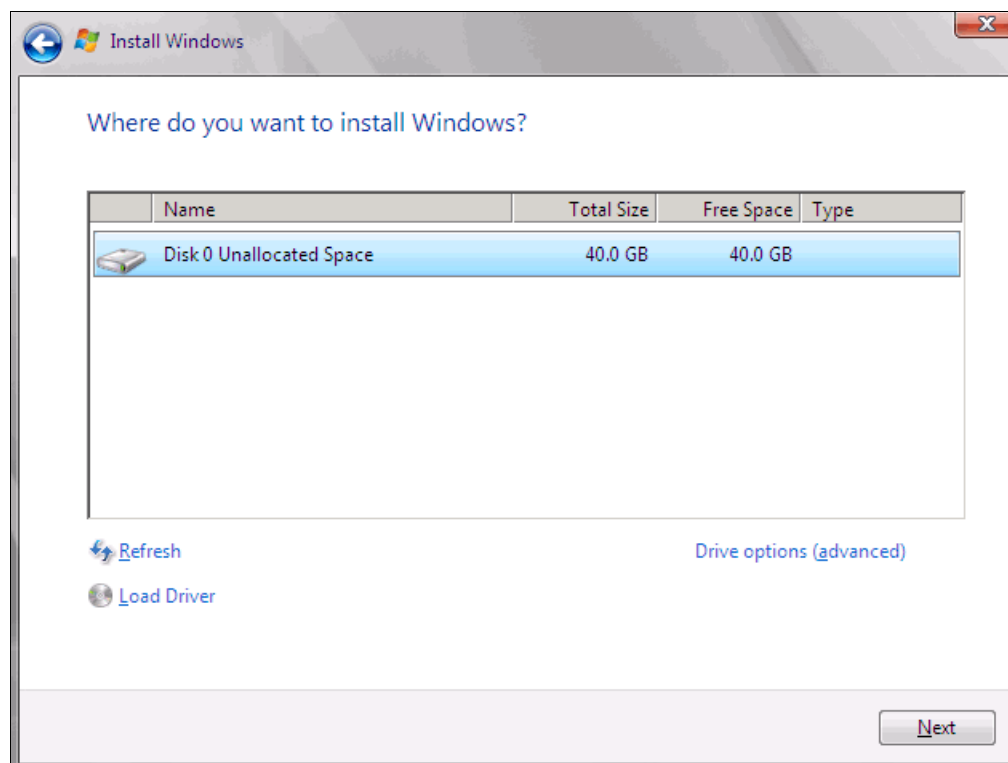

Figure 9-111 Selecting the disk
19. In the “Where do you want to install Windows” panel (Figure 9-111), when you see your LUN, select the disk, and click **Next**.